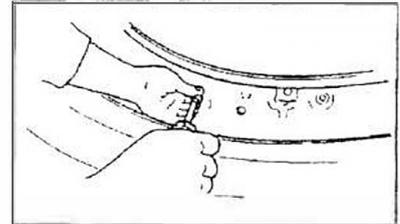

Figure 1
4. Remove the valve core; deflate tire completely. (See Fig. 1.)